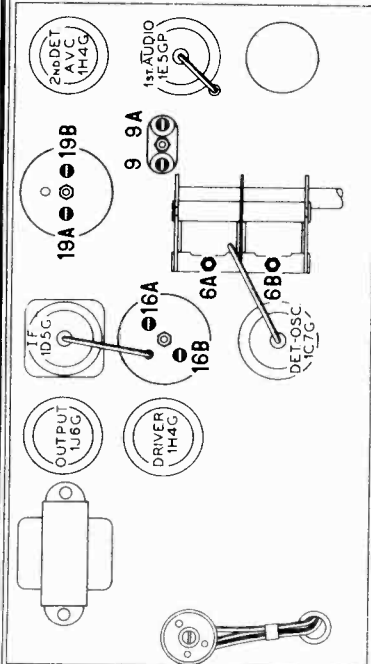

Fig. 2. Locations of Compensators—Top of Chassis
2. Holding the tuning condenser in this position, loosen the dial clamp; then turn the dial until the indicator is centered on the middle index line (See Fig. 2). Tighten clamp in this position.